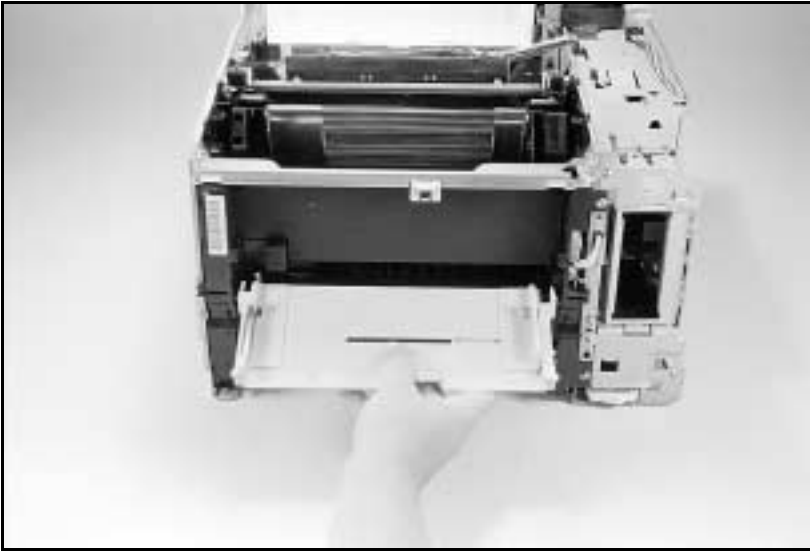

Figure 6-12 **Rotate the Tray Down to Release the Hinge from its Slots**
- 5 Rotate the tray down until it slides off its slotted hinges (about 120°)(see Figure 6-12).